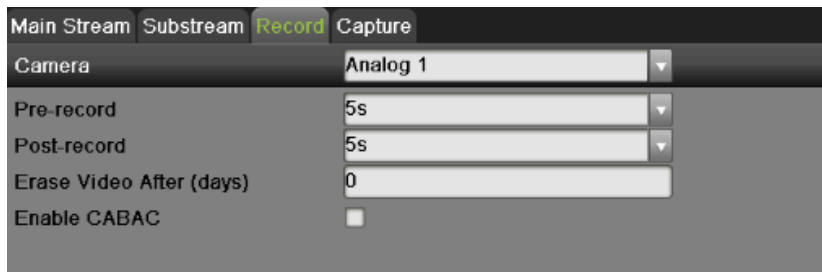

Figure 46 Record Settings Menu
4. Select Record tab, as shown in Figure 46, to configure some parameters of recording.